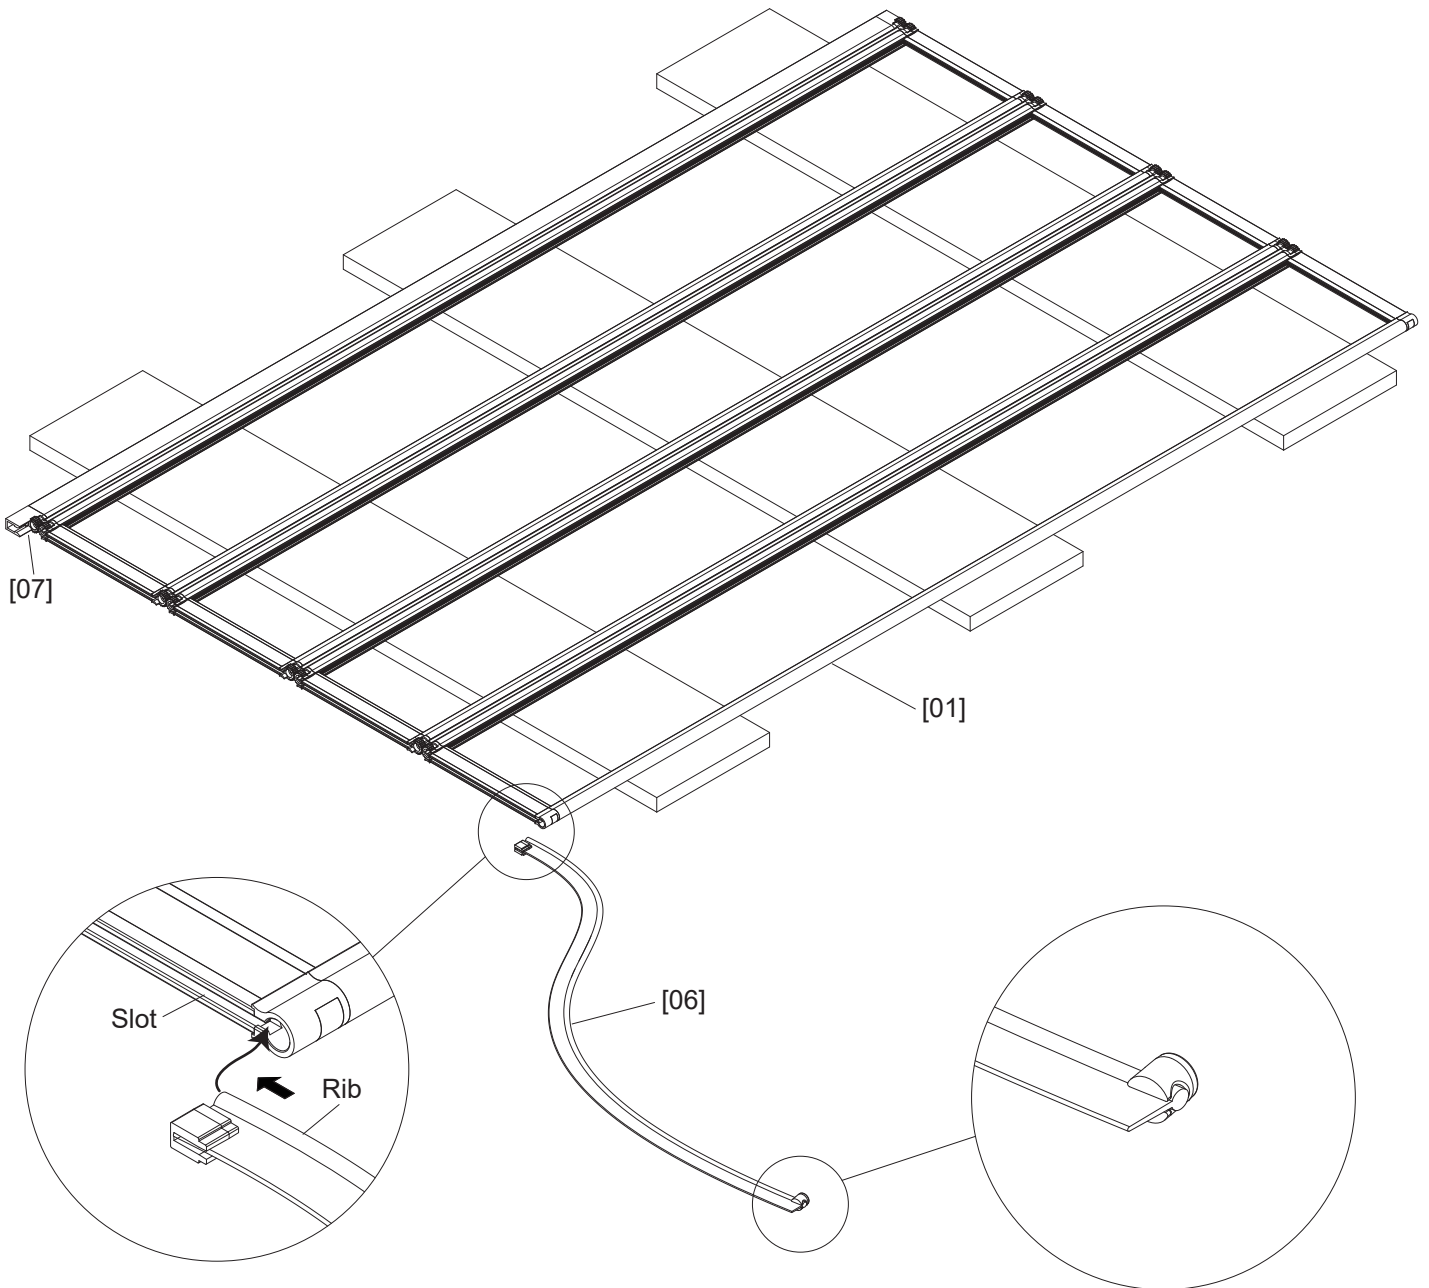

Fig 5
1. Slide the **Rib** of **Bottom Water Sealing Strip [06]** to the **Slot** of panels starting from the end of **Two Gear Door Panel [01]** to **Bottom Gear [07]**. (Fig 5)